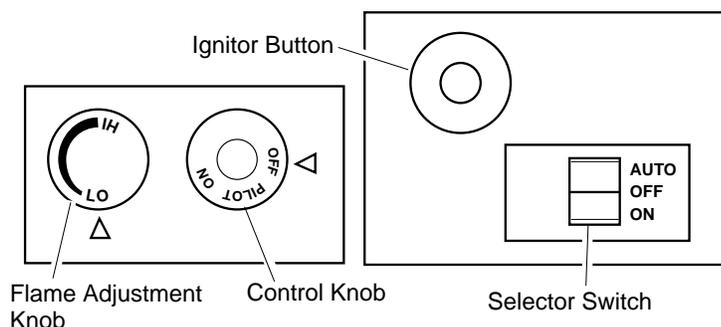

Figure 32 - Control Knob and Ignitor Button Location (Shown as Supplied, No Control Options)
5. Wait five (5) minutes to clear out any gas. Then smell for gas, including near the floor. If you smell gas, **STOP!** Follow "B" in the safety information, column 1. If you don't smell gas, go to the next step.
6. Press in and turn control knob counterclockwise to the PILOT position. Press in control knob for five (5) seconds (see Figure 32).